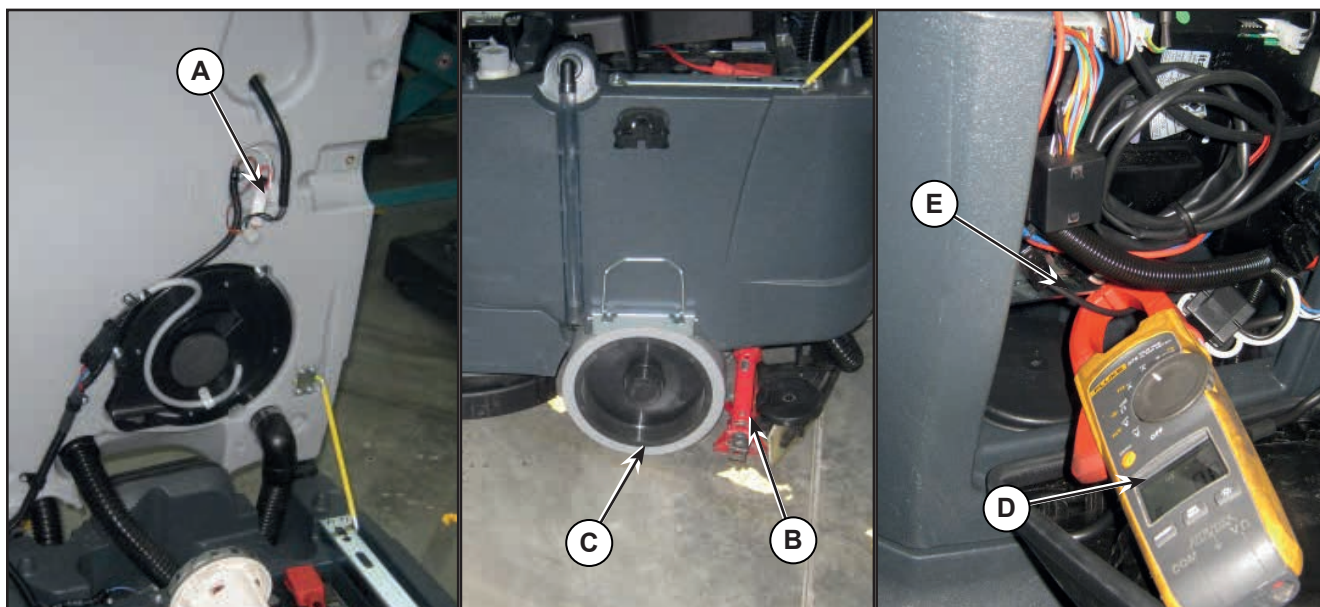

Figure 5:
3. Apply a jumper wire (A, Figure 5) on the driver's seat sensor connector to disable the system.
5. Place a suitable lifting device (B) to raise one side of the machine approximately 2 cm from the floor (C) and allow one driving wheel to turn freely.
6. Apply the amp clamp (D) on one (black) cable (E) of the drive system motor wiring harness.
9. Switch off the machine and remove the amp clamp (D).